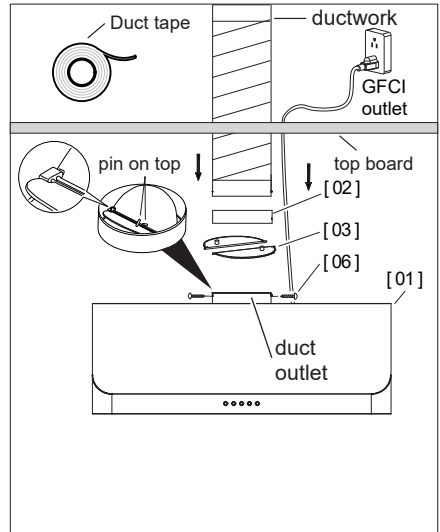

Fig 3
1. Install both **Damper Flaps [03]** inside the **duct outlet**, making sure the pins are on top. (Fig 3)
2. Hold **Range Hood [01]** on the wall and close to the **top board**. (Fig 3)
3. Install **Metal Adapter [02]** to the duct outlet. Align the side holes of it with the side holes of the duct outlet and secure it with **#4 x 0.31" Screws [06]**. Secure your ducting connection to the **duct outlet** using **Duct tape** to hold it in place. Try to minimize the use of elbows. More elbows and longer runs will reduce the air suction. Use **Duct tape** to make all joints secure and air tight. (Fig 3)